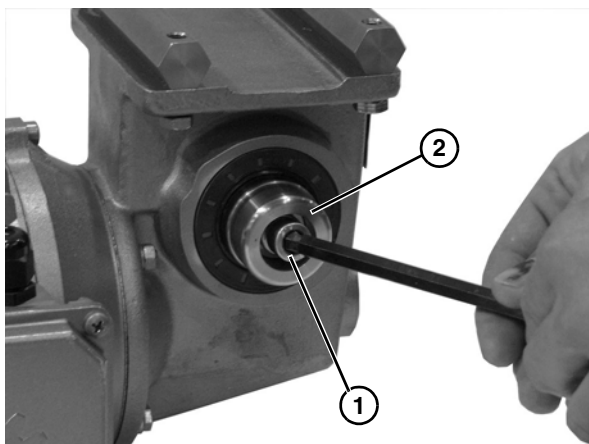

Figure 66
1. Remove the plastic cap on the end of the motor and remove the socket head screw (Figure 66, item 1) and the bore plug (Figure 66, item 2).